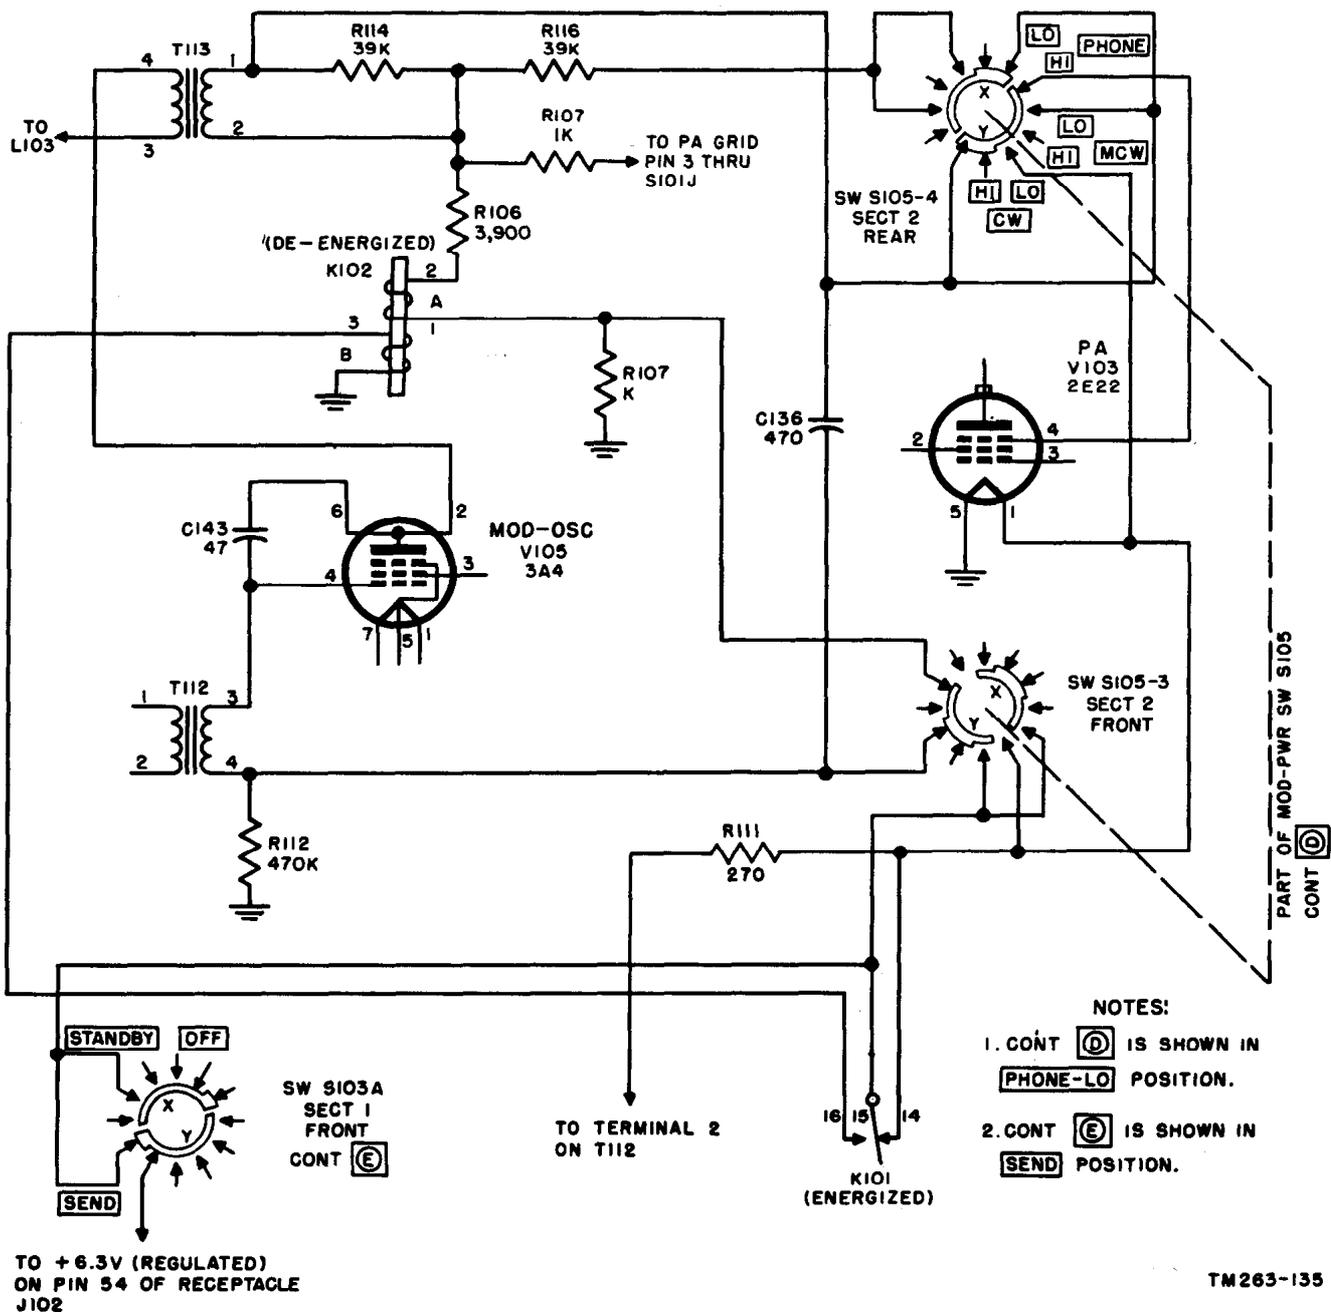
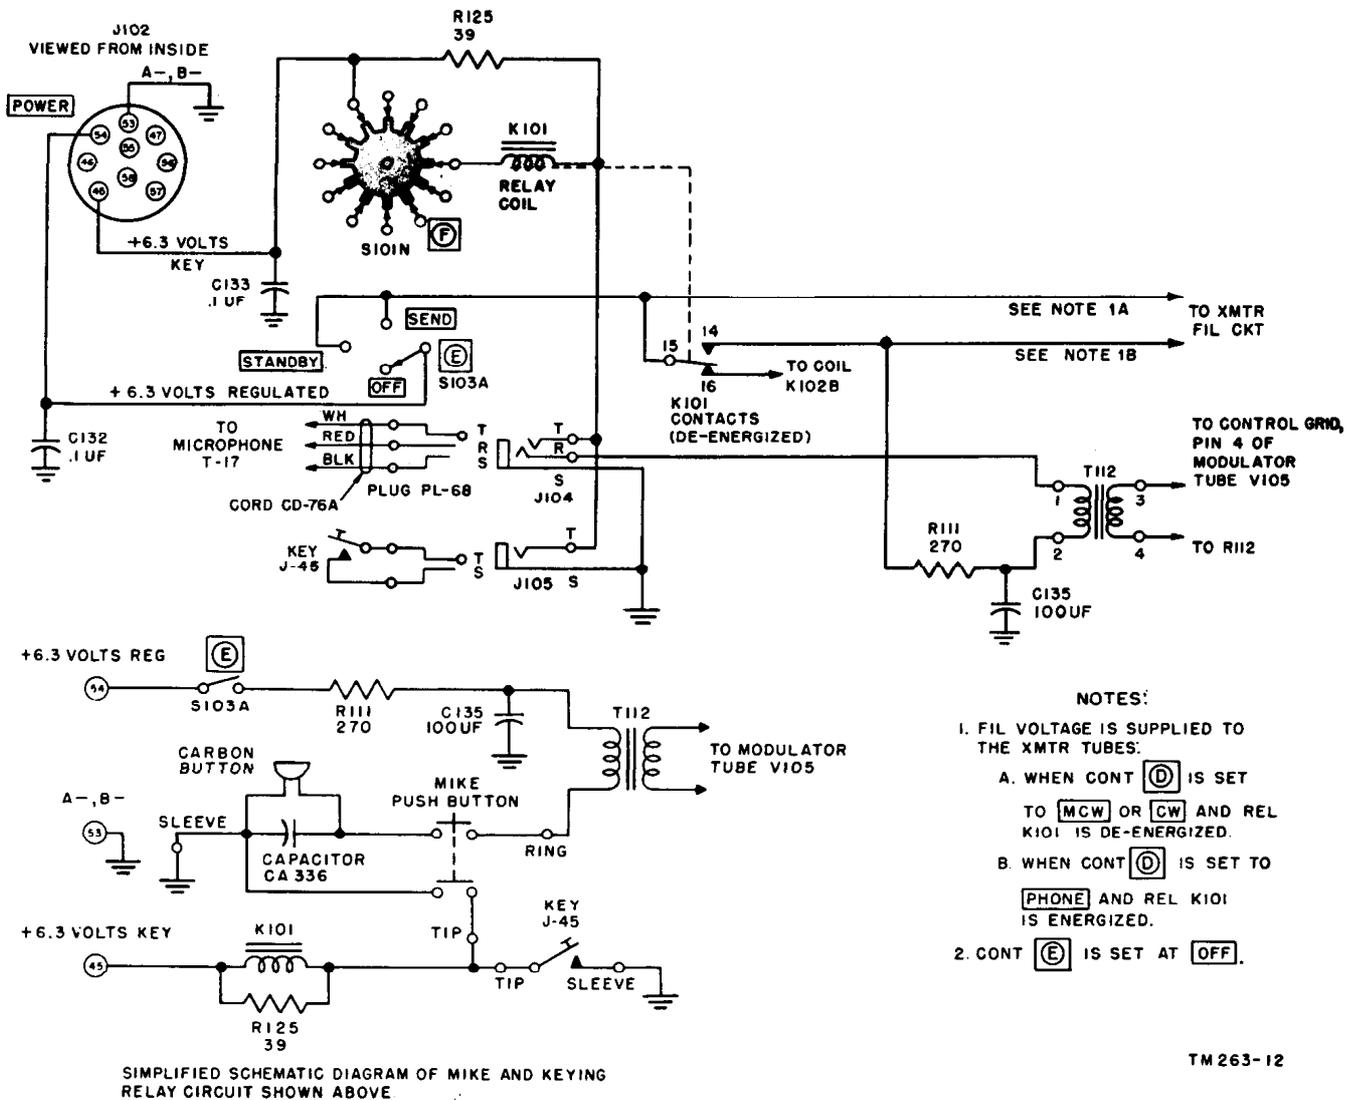
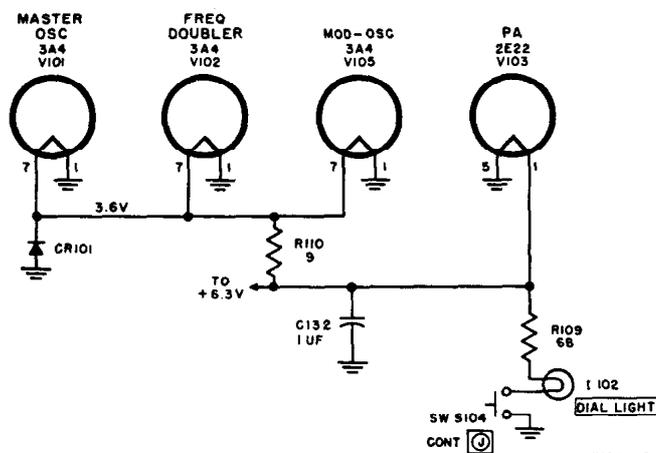
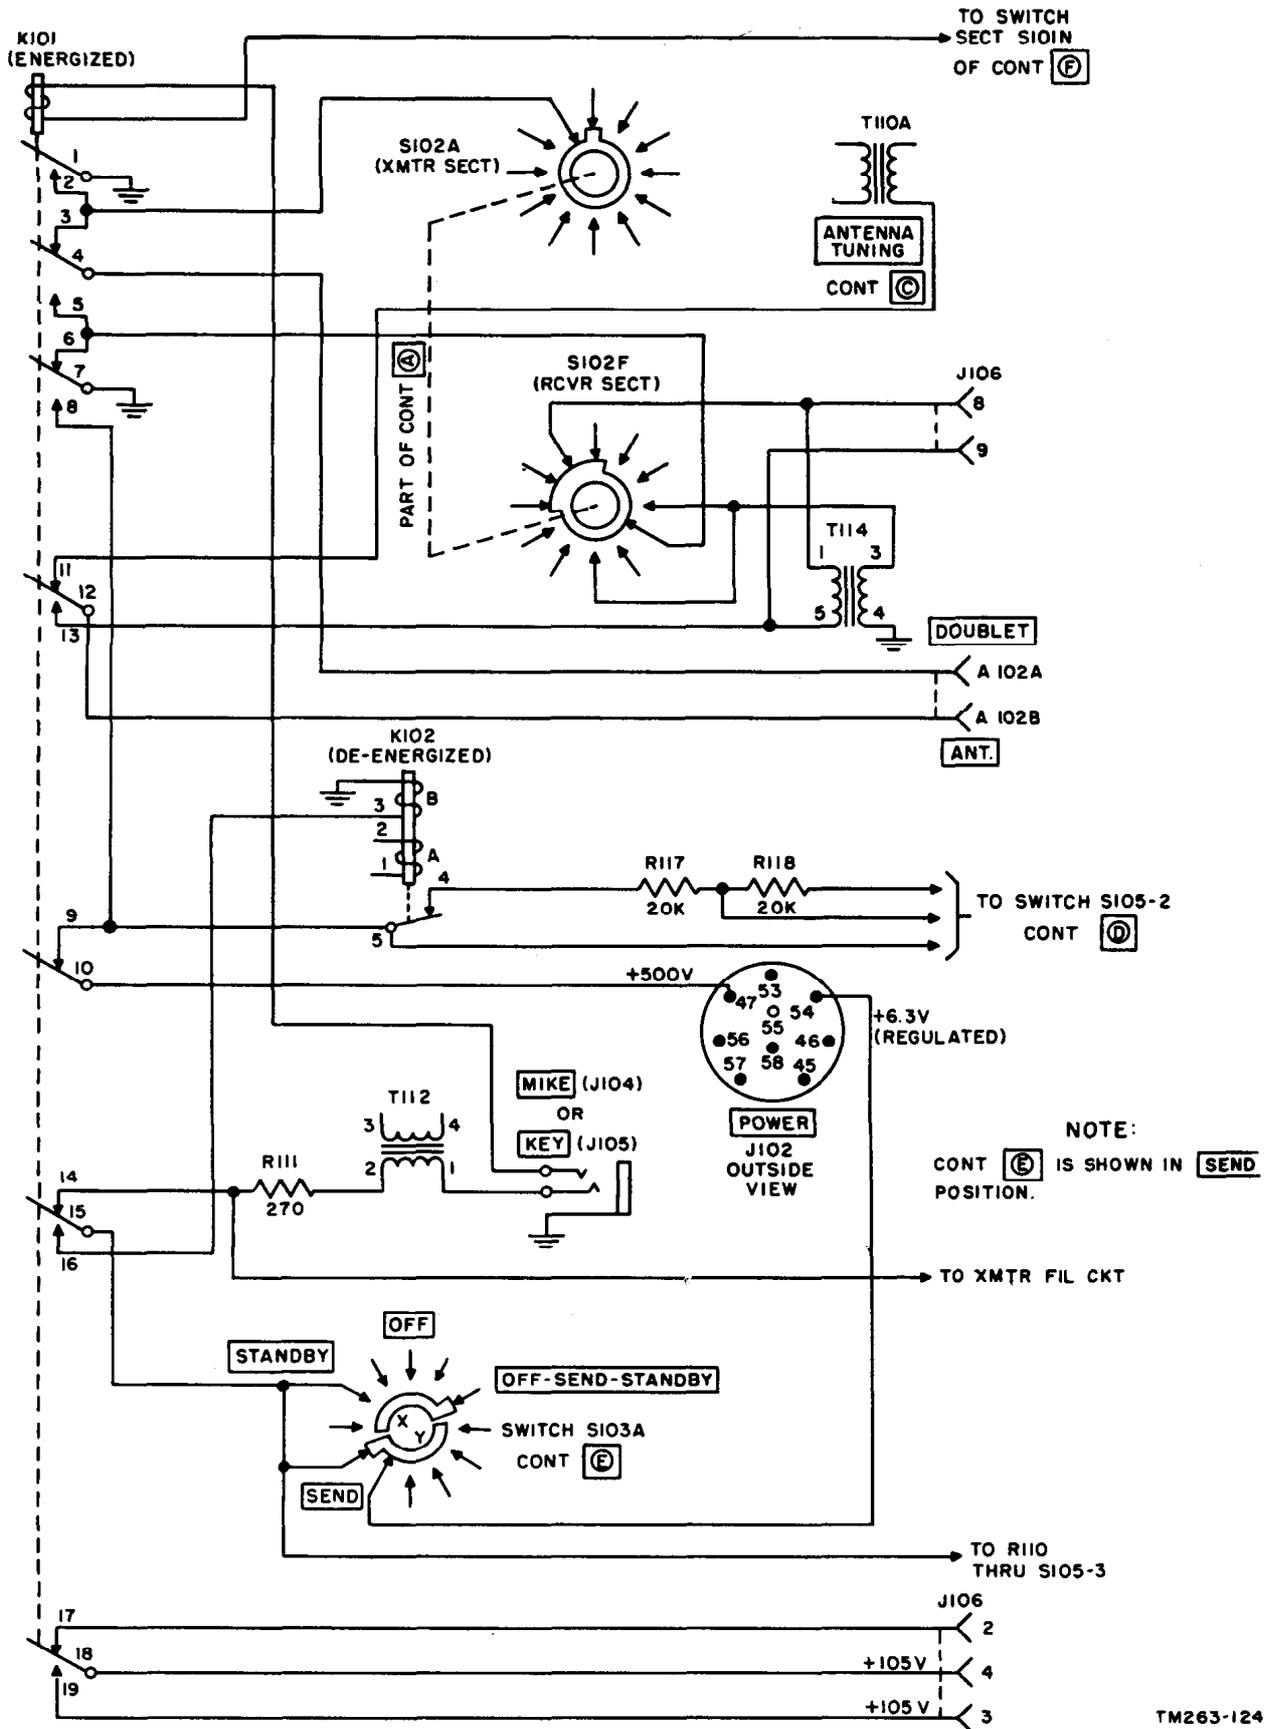

Figure 88. Modulation positions of S105, simplified schematic diagram.
Figure 89. Microphone and key connections.
Figure 90. Transmitter filaments, simplified schematic diagram.
Figure 92. Relay K101 contacts.
#### 114. Modulation and Filament Switching Positions of Switch S105 (fig. 88)
### 115. Microphone and Key Connections (fig. 89)
b. For the microphone to perform its function, a dc current must flow in its circuit. The current enters the transmitter from pin 54 of receptacle J102 and flows through the SEND position of switch section S103A to contact 15 of relay K101, and switch section S105-3 (fig. 88). If S105 is in the CW or MCW position, the current will reach the microphone regardless of the position of the relay contacts. However, if S105-3 is in the PHONE position, the microphone can be energized only if relay contacts 15 and 14 are closed. From contact 14 of K101 or from the rotor of S105-3, the current goes through current limiting resistor R111 to
## 116. Transmitter Filament Circuit (fig. 90)
b. The transmitter filaments receive their voltage from pin 54 of receptacle J102 (fig. 89). The regulated 6.3-volt supply is fed to switch section S103A, control Ⓜ, and from there to S105-3, control Ⓜ, and also to contact 15 of keying relay K101. When control Ⓜ is in the PHONE position (fig. 88), the tubes and the dial light can receive filament voltage only if contacts 15 and 14 of K101 close (fig. 92); which they do only when the key or microphone button is pressed. When control Ⓜ is in the MCW and CW positions, the filaments receive voltage regardless of the position of the relay contacts (fig. 88).
### 119. Keying Relay K101 (fig. 92)
- (1) Contacts 1 and 2 open, disconnecting the ground from switch section S102A.
- (2) Contacts 3 and 4 close, connecting terminal A 102A to switch section S102A.
- (3) Contacts 6 and 7 close, connecting the receiver antenna-matching transformer T114 (through S102F) to ground.
- (4) Contacts 11 and 12 close, connecting doublet terminal A102B to transmitter coil T110A.
*c.* When switch section S105-3, control ④ (fig. 88), is in the PHONE position only, the filaments of the transmitter tubes are off, unless the key or press-to-talk switch on the microphone is depressed. Contacts 14 and 15 close, connecting resistor R110 and filament pin 1 of tube V103 (fig. 90) to terminal 54 of receptacle J102, through switch section S103A.